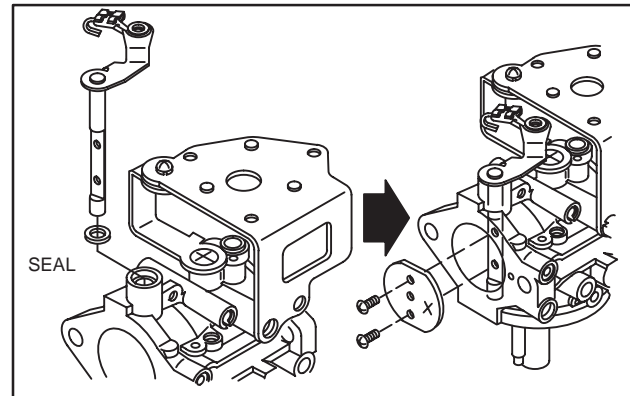

Fig. 40 – Installing Throttle Shaft
1. Install throttle shaft and new seal, Fig. 40.